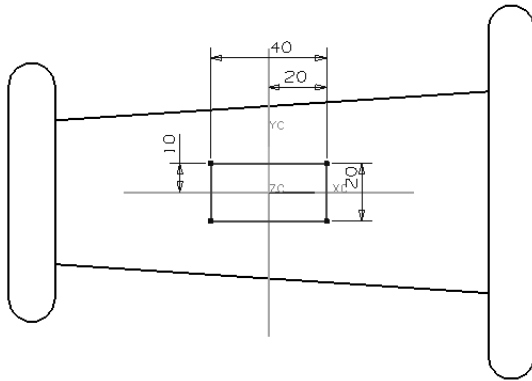

Figure 11-75 The sketch drawn for creating the extruded feature
2. Create the sketch for the second feature by selecting the offset plane as the sketching plane, as shown in Figure 11-75.